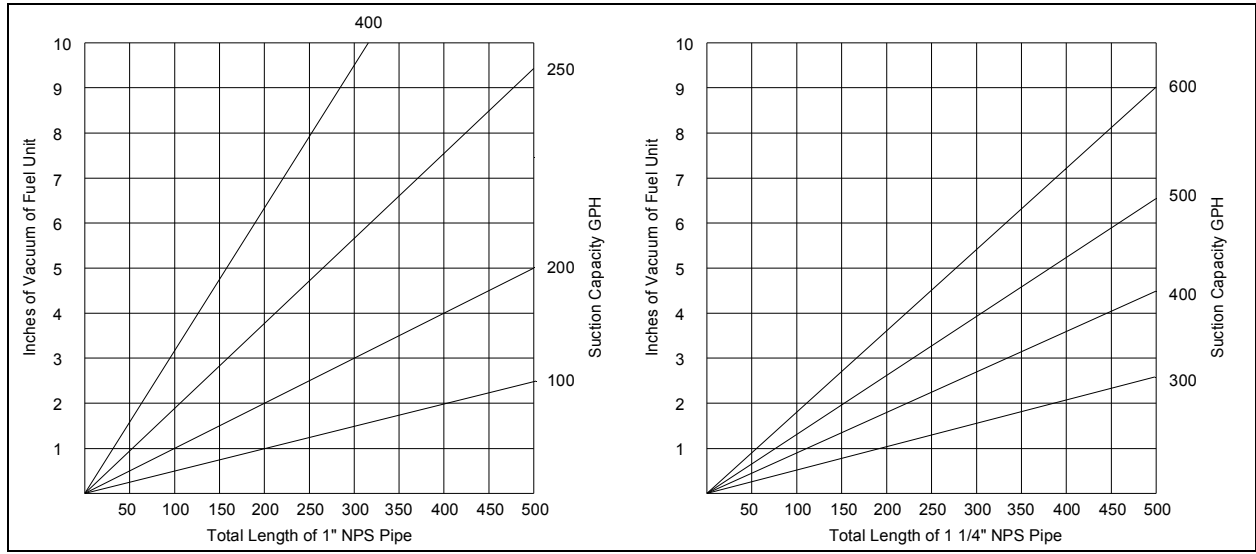

Figure 3: Oil Line Sizing
- 1) Check oil pump GPH Suction Capacity shown in Table 3 to pipe size shown in Figure 3, Oil Line Sizing.
- 6) Add the vacuum determined from items 4 and 5 together to determine total inches of vacuum.
- 10) A Rule of Thumb to determine total vacuum for suction line sizing is to add 10% to vacuum determined from Figure 3 calculations.